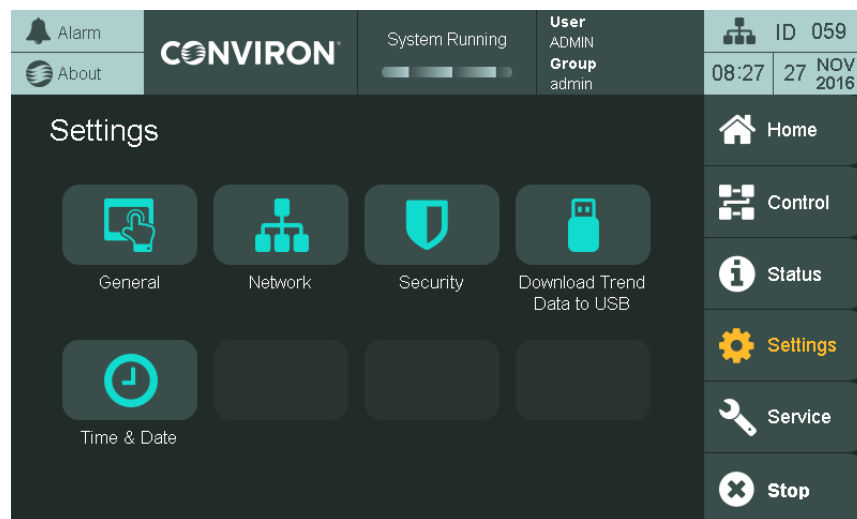

Figure 2-2 Settings Menu
1. Tap the **Settings** button on the main menu, and then tap the **Download Trend Data to USB** icon (Figure 2-2).